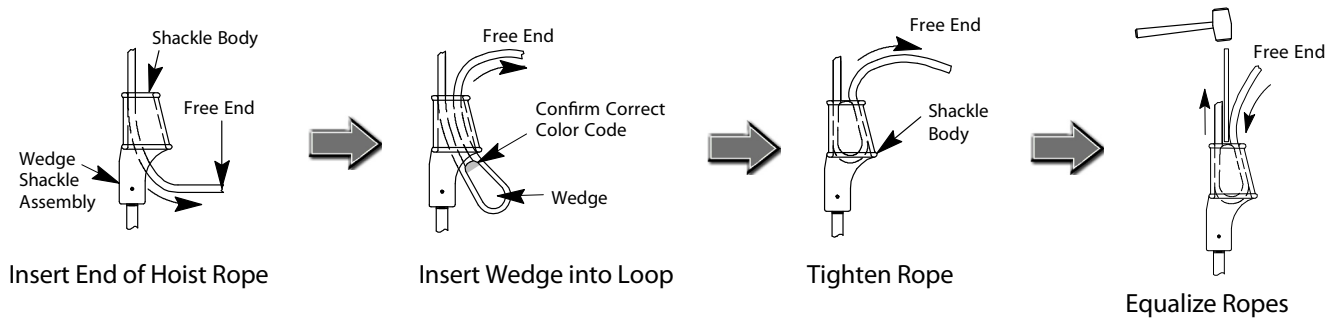

Figure 22 - Wedge Shackle Assembly
2. Insert the end of the hoist rope through the clamp body (of the wedge clamp and rod assembly), taking up all the slack in the hoist rope. See Wedge Shackle Assembly, Figure 22.
9. Use a hammer and a drift pin or rod and roughly equalize any rope(s) that are tighter than the rest by tapping the wedge at the narrow end until the rope slides through. See Wedge Shackle Assembly, Figure 22 on page 33.